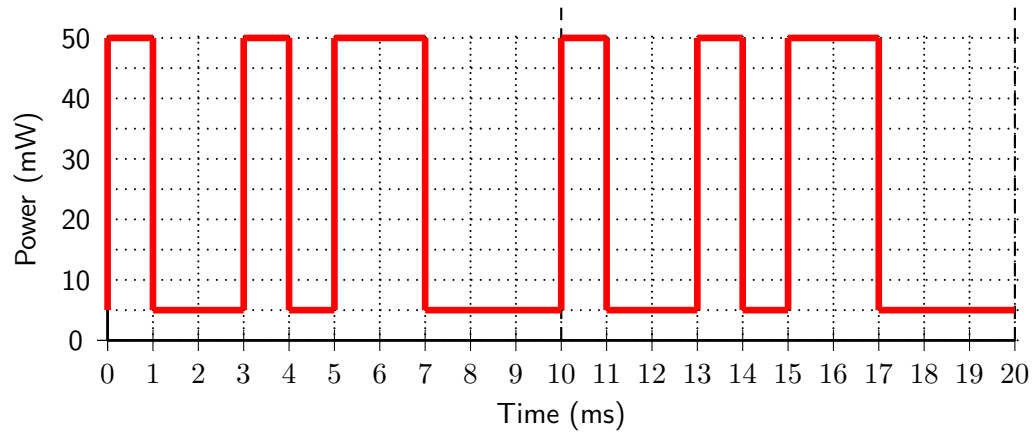

Figure 8: Solution for workload-conserving scheduler.
- (a) (6 points) Assuming zero energy and time overhead between *IDLE* and *ACTIVE* mode, plot the power dissipation during **two periods** for a workload-conserving schedule using Figure 8. The processor is in *IDLE* mode at time 0. What is the average power P_{avg} between time 0 ms and 20 ms?